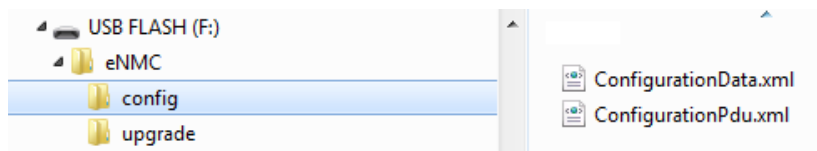

Figure 52. Example USB Root with eNMC Config Directory
7. Click **OK** to continue when a successful pop-up message displays the following see Figure 52):